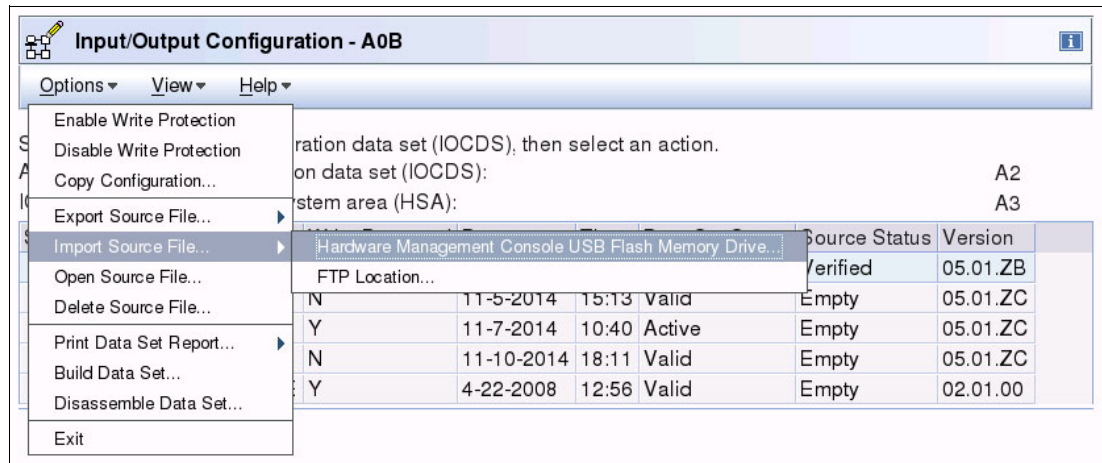

Figure 7-84 HMC - SAIOCP: import source file
12. Click **Options** → **Import Source File** → **Hardware Management Console USB Flash Memory Drive** (Figure 7-84).